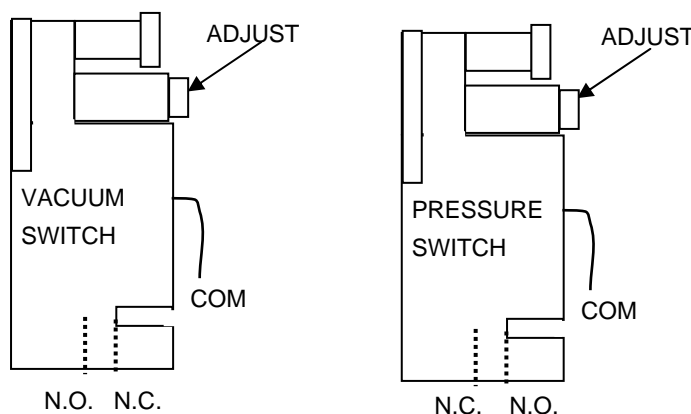

Figure 7: Pressure & Vacuum Switches
1. Temporarily alter the switch wiring to the Vacuum Switch **VS1** and Pressure Switch **PS1**. On each, change the wire from the normally open (**N.O.**) contact to the normally closed (**N.C.**) contact. This will allow operation with the covers off and without pressure and vacuum. See Figure 7.
See Figure 7. The Vacuum switch may need adjustment if the "Check Vacuum" error is displayed but no cause for it is apparent (the vacuum pump is working and the hose & motor shaft hole are not blocked). In that case: